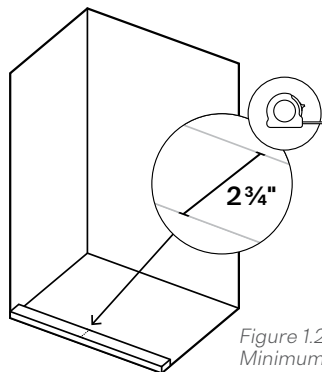

Figure 1.2 Esprit Round Slider Minimum Threshold Width
- d. **Verify Threshold Width** - If your shower installation features a raised threshold, the completed threshold must be a minimum width of **2 ¾"** or this model will not fit your space. (Fig. 1.2)